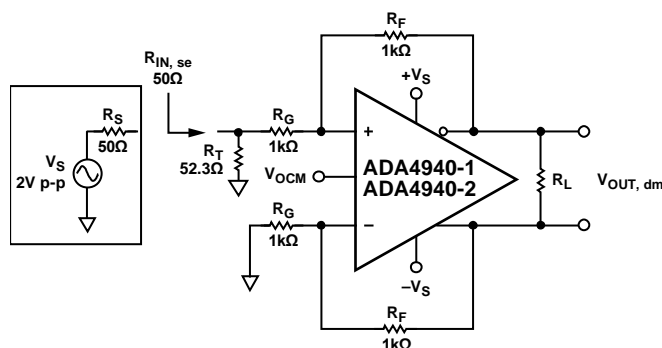

Figure 67. Adding Termination Resistor  $R_T$
3. Figure 67 shows that the effective  $R_G$  in the upper feedback loop is now greater than the  $R_G$  in the lower loop due to the addition of the termination resistors. To compensate for the imbalance of the gain resistors, add a correction resistor ( $R_{TS}$ ) in series with  $R_G$  in the lower loop.  $R_{TS}$  is the Thevenin equivalent of the source resistance,  $R_S$ , and the termination resistance,  $R_T$ , and is equal to  $R_S || R_T$ .